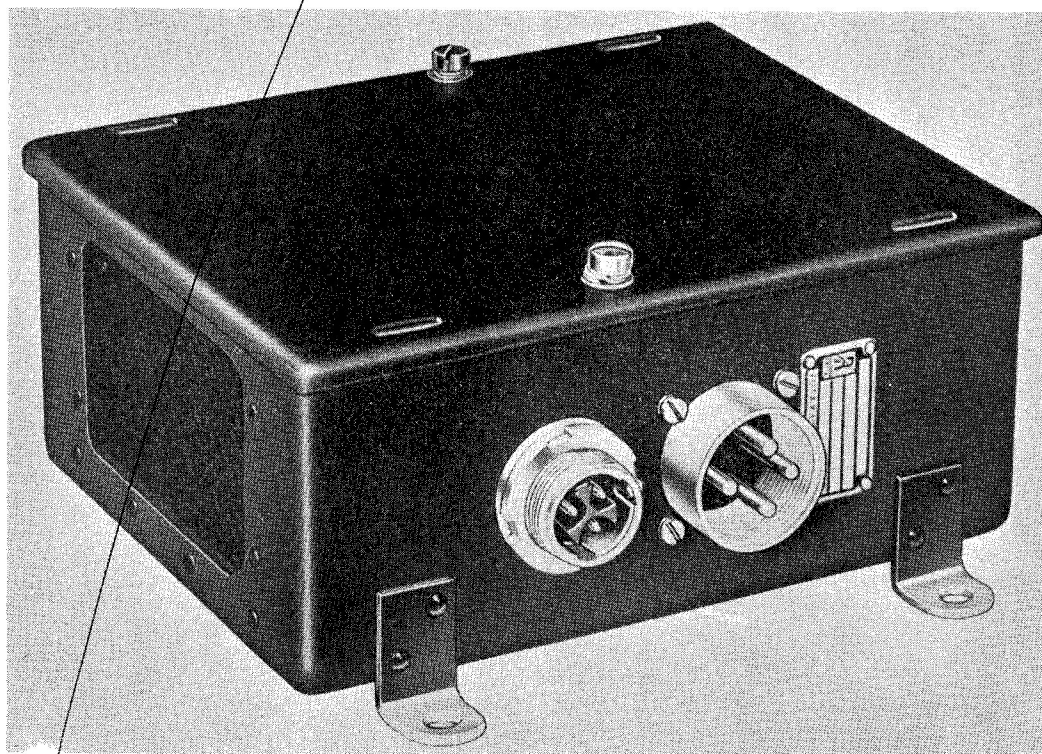

Fig. 1. General view of control panel Type 24
1. The control panel Type 24 (fig. 1) has been designed to work in conjunction with